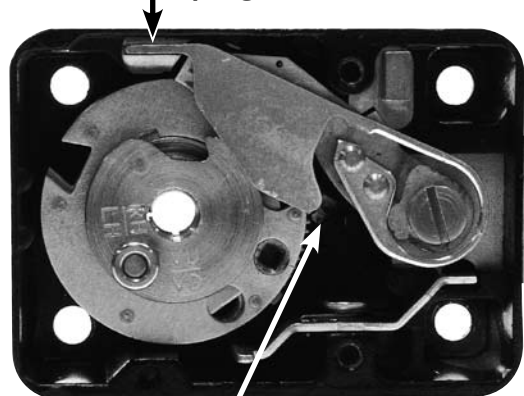

Figure 1
1. Remove the lock cover. Place the lock bolt in the extended position and the accelerator spring in the loaded position (Figure 1). **CAUTION: Do not remove the drive cam.**